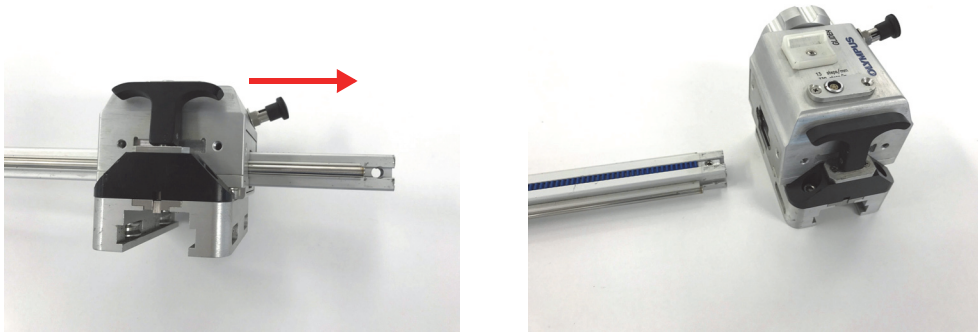

Figure 2-7 Sliding the module off the frame
2. Slide the module off the frame (see Figure 2-7 on page 32).